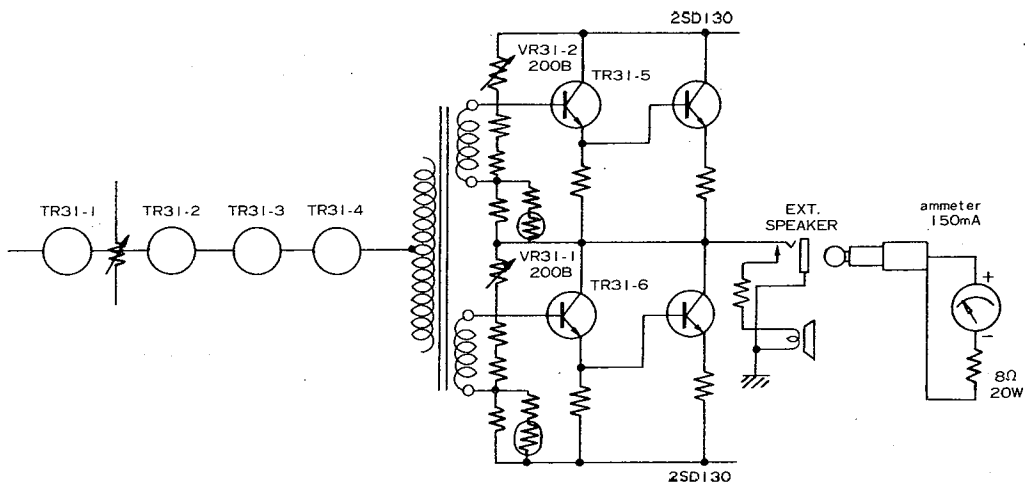

Fig. 1
- As shown in Fig. 1, connect the AM Meter (100 mA–150 mA scale) and a resistor ( $8\Omega$  20W) to the External Speaker Jack.